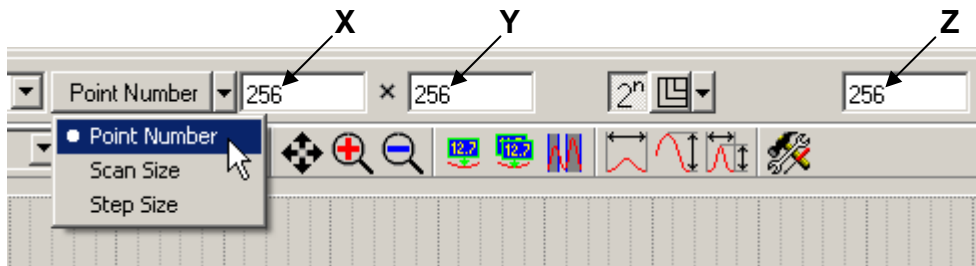

Fig. 12-31. Defining numbers of scan points for every direction
- for 3D scanning – enter numbers of points in the input fields for every direction (Fig. 12-31).